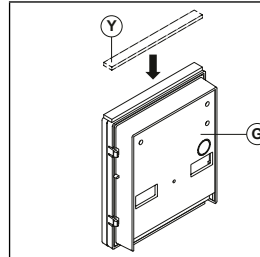

Fig. 2
Apply the (Y) seal as shown in **Fig. 2**.
- Place the surface box against the wall (165-170cm between the top of the box and the floor level as shown in **Fig. 1**) and mark the fixing holes for the wall plugs and the hole for the cables **(E)** (**fig. 2**). Observe the orientation of the box with the hinge on the left;
- As shown on **Fig. 2**, drill the fixing holes **(A)**, insert the wall plugs **(B)** and feed the cables **(E)** through the surface box opening **(D)**, fix surface box **(C)** to the wall using the screws **(F)**;
- Protect the module support frame fixing holes from dust then embed the back box into the wall (165-170cm between the top of the box and the floor level as shown on the **Fig. 1**) feeding the cables **(E)** (**Fig. 2**) through a previously opened hole in the box. Observe the direction of the box ensuring the hinge is on the left and take care that the box profile is in line with the finished wall profile;